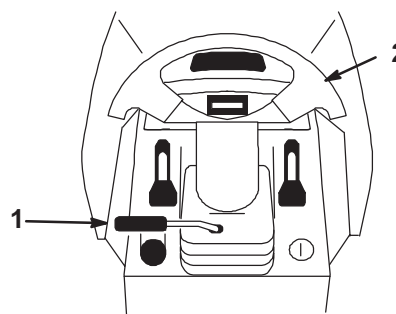

Figure 17
1. Lift the tilt lever to release the lock (Fig. 17).